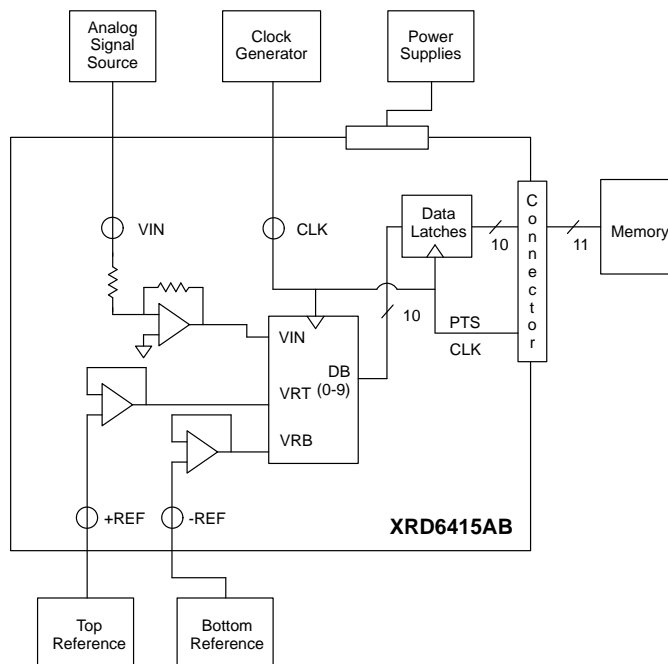
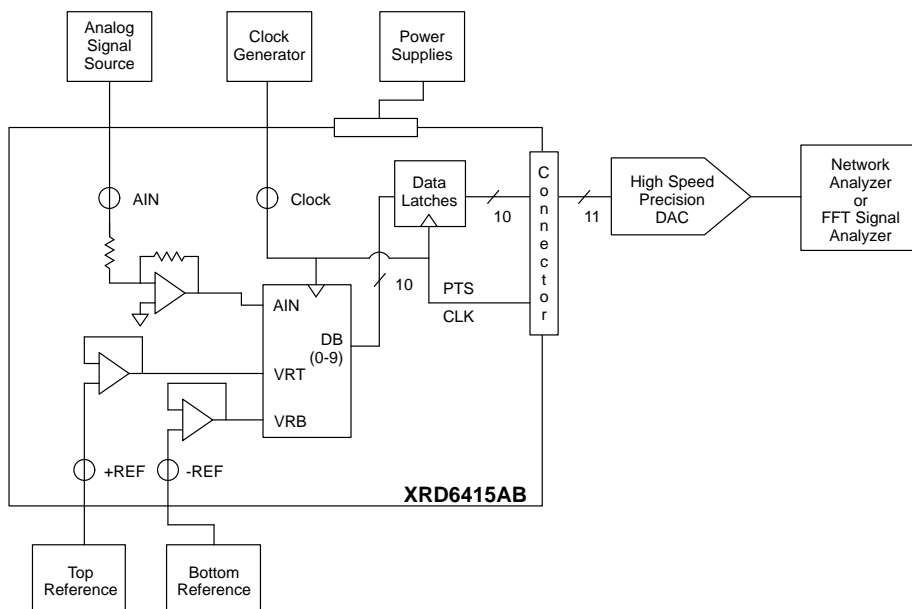
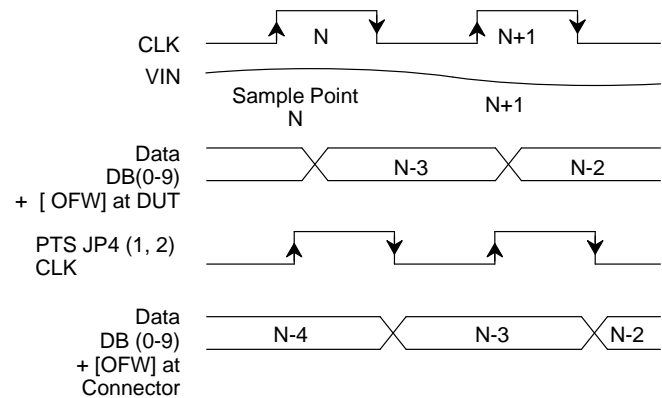
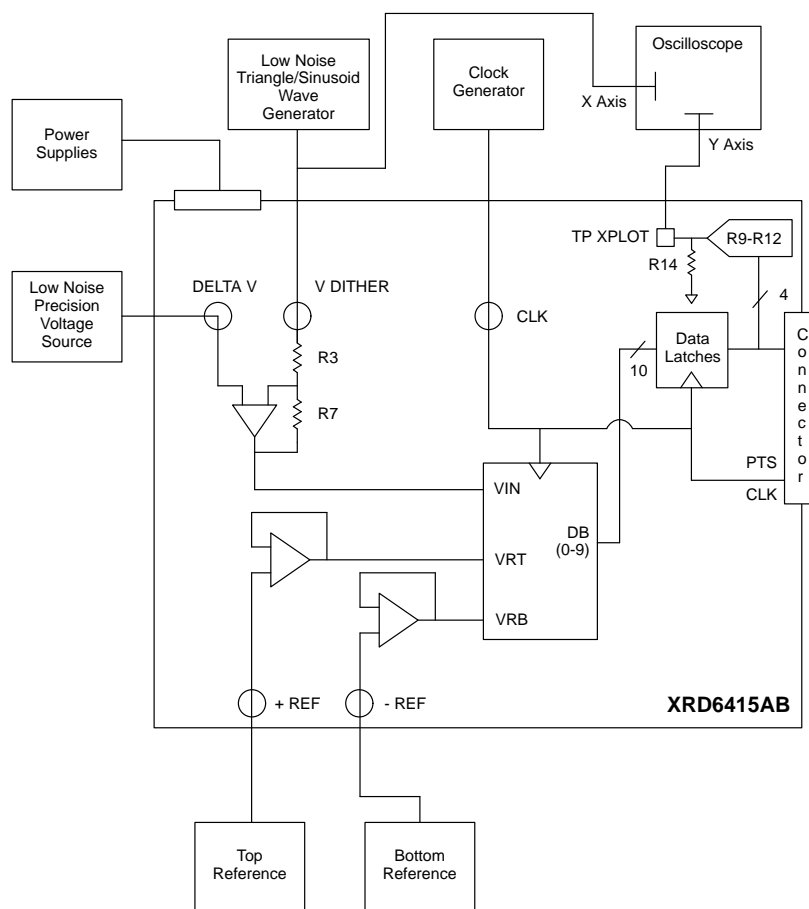

Figure 1. Default A/D Test Circuit
Figure 4. External Precision DAC Reconstruction Test
Figure 6. XRD6415AB Circuit Timing
Figure 10. Crossplot Setup
The board is set up as a general A/D test circuit. *Figure 1.* shows this default test circuit. Circuit timing is demonstrated in *Figure 6.* There are many other circuit possibilities built into the universal test board, however, starting with the default circuit is recommended.
The evaluation block diagrams of the XRD6415AB with typical external test equipment are shown in *Figure 1.*, *Figure 4.*, and *Figure 10.* The following is a more detailed description of the major on-board and external components used in these systems.
The system block diagrams (*Figure 1.*, *Figure 4.*, and *Figure 10.*) show the external test equipment required to perform all test and evaluation functions. These include:
1. **EXTERNAL PRECISION OUTPUT DAC** - As an alternative to DSP, a high speed precision digital-to-analog converter can reconstruct the output in analog form. Analog measurements can be used to evaluate the A/D's performance using conventional analog instrumentation as shown in *Figure 4*.
Figure 6. demonstrates the circuit timing of the XRD6415AB. The CLK is provided by the user as specified on the XRD6415 data sheet. The PTS CLK is an output that allows for synchronization of external lab
An evaluation of differential linearity can be simply done with an oscilloscope, a triangle wave or sinusoid generator and a low noise DC signal source. Input SMBs are provided on the board so this "cross plot" method can be conveniently implemented (See *Figure 10.*) The oscilloscope must be set in the X-Y display mode.